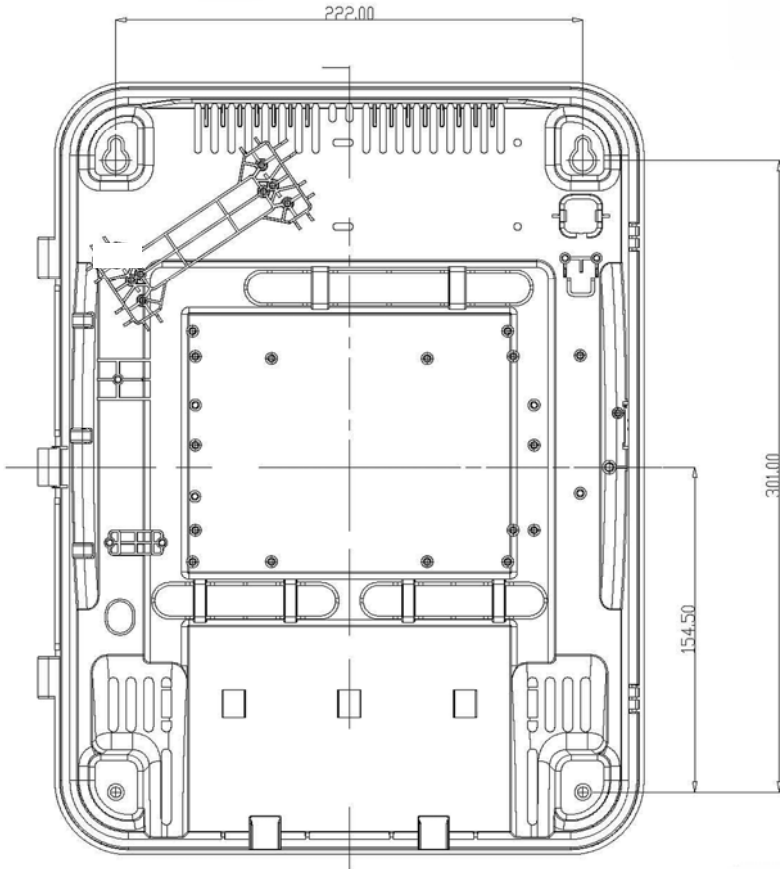

Figure 31: ME-12 Mounting Template
1. Using the holes dimensions and locations shown in Figure 31, drill holes in the wall.